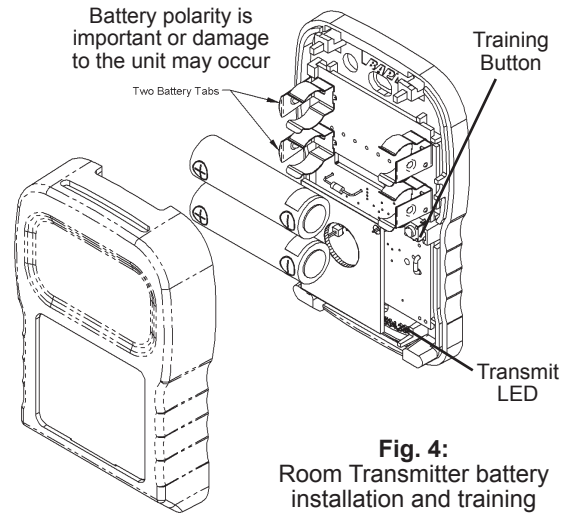
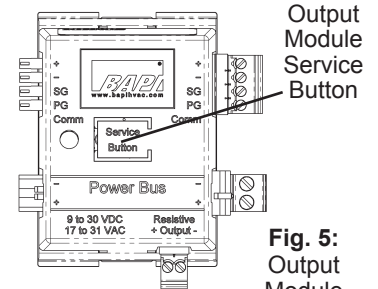

Fig. 4:
Fig. 5:
- Remove the cover of the room transmitter and remove the battery tabs or install the batteries, observing polarity as shown in Fig 4. The "transmit LED" will flash about once every 20 seconds, indicating a transmission.
- Press and hold down the "Service Button" on the top of the output module (Fig 5) that you wish to train. Then, press and release the "training button" (see Fig 4) on the transmitter. When the output module receives the "training transmission" from the transmitter, the output module's red LED will light steady. Release the "Service Button" on the output module and the red LED will go out. The transmitter and output module are now trained to each other. During normal operation, the output module's LED will flash about once every 20 seconds indicating data reception from the transmitter trained to it.